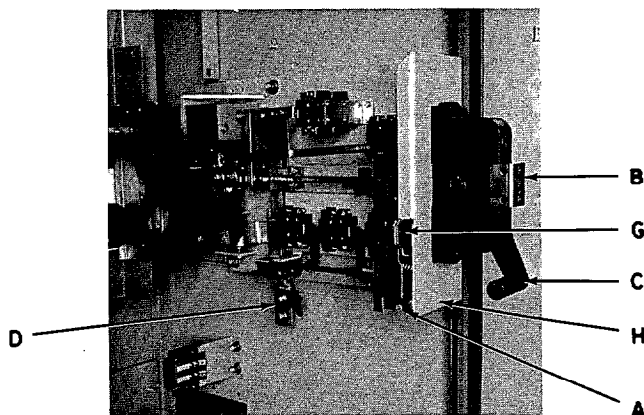

Fig. 82. Right-side of enclosure showing electrical interlock mounted on the enclosure.
(Refer to Fig. 82.)
- B. Stab in contactor (handle closed). Manually depress door forgetter per Fig. 82 (A).